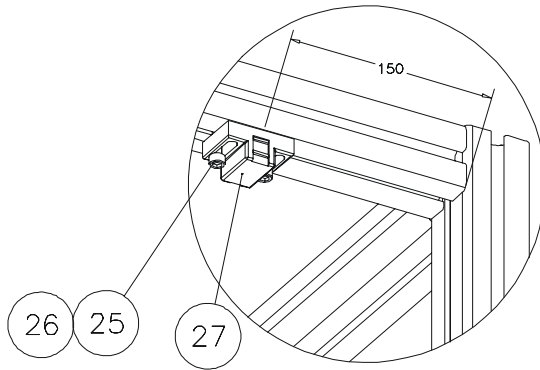

Figure 10: Attaching Magnet to Door
15. See Figure 10. Insert the T-slot nuts of each magnet assembly into the groove of the upper beam, and position the magnet about 150 mm (6") from the side beam. Tighten the 2 bolts on each magnet assembly.